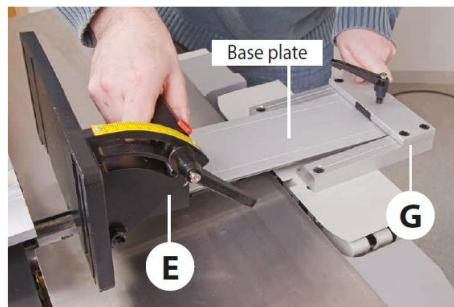

Fig 4
Loosen the clamping handle on the mounting bracket, insert the tilt assembly base plate (E) through the mounting bracket (G) sufficiently for the next step. Lightly tighten clamping handle, see Fig 4.